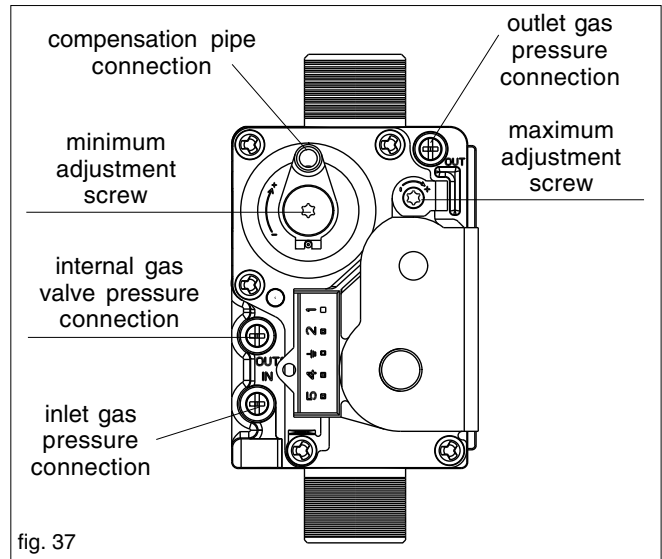

fig. 37
- using a TX 15 key (Torx key), very slowly turn the maximum adjustment screw (see fig. 37) - clockwise to increase, counter clockwise to decrease - until the correct value is displayed on the CO2 analyser (allow time for the analyser to stabilise).
- locate the minimum adjustment screw (fig. 37), remove the protection plug using a TX 15 key (Torx key)
- using a TX 15 key (Torx key), very slowly turn the minimum adjustment screw (see fig. 37) - clockwise to increase, counter clockwise to decrease - until the correct value is displayed on the CO2 analyser (allow time for the analyser to stabilise).